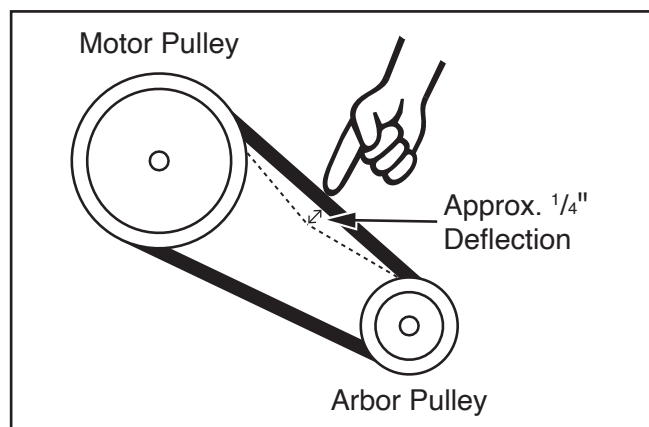

Figure 107. End trimmer belt deflection.
5. Press middle of flush trimmer drive belt with moderate pressure. Proper tension is achieved when deflection is approximately $\frac{1}{4}$ " as illustrated in **Figure 107**.